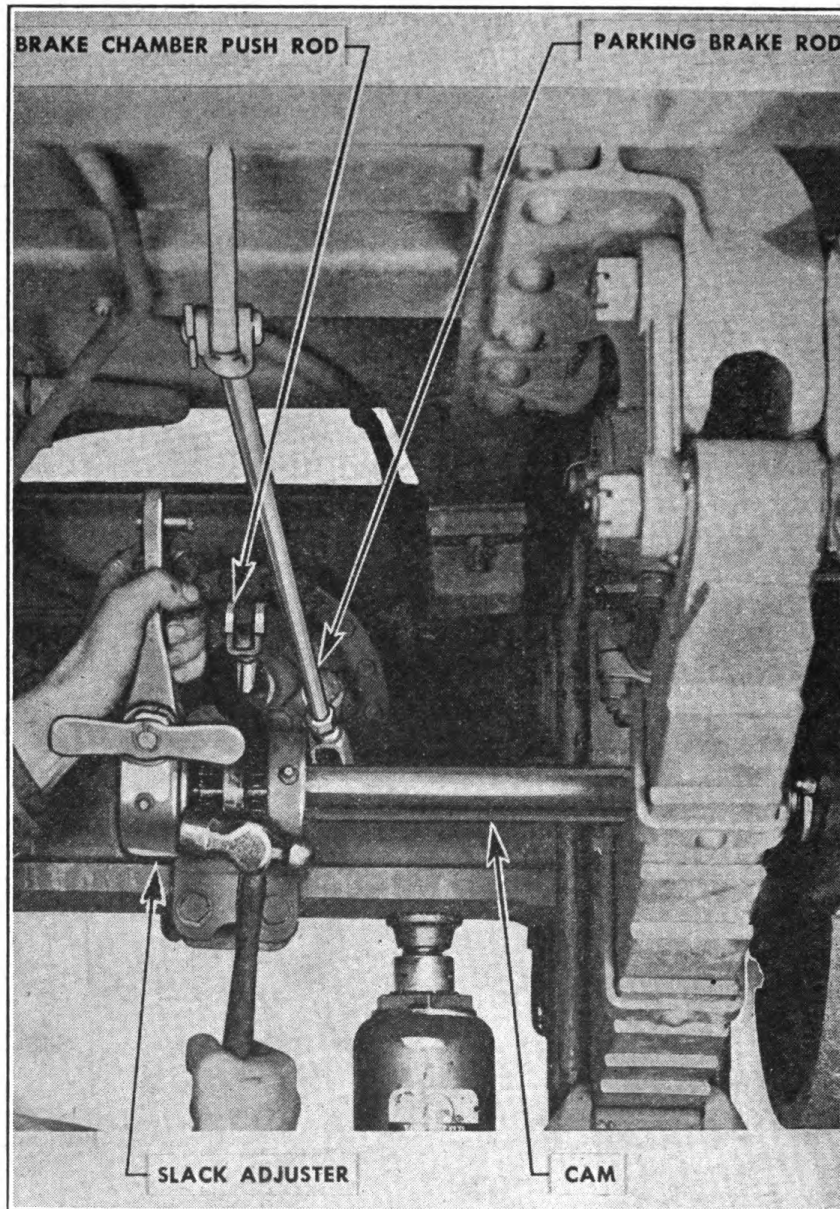

FIGURE 29. SLACK ADJUSTER—REMOVAL.
(1) *Removal* (Fig. 29).—(a) Disconnect the rods at slack adjuster. Remove the $\frac{3}{4}$ " nut, lockwasher and flat washer from cam. With a small hammer, drive the slack adjuster off the cam.
(2) *Replacement* (Fig. 29).—(a) Place slack adjuster on spline of cam shaft, with the wing adjusting wrench towards the front of unit. Install the flat washer, lockwasher and nut. Turn the wing wrench to align the hole in slack adjuster with hole in brake chamber push rod yoke. Place a light film of grease on yoke pin and install pin. If working on semi-trailer, place the hand brake rod in the top hole of slack adjuster, and the push rod of brake chamber in the center hole.